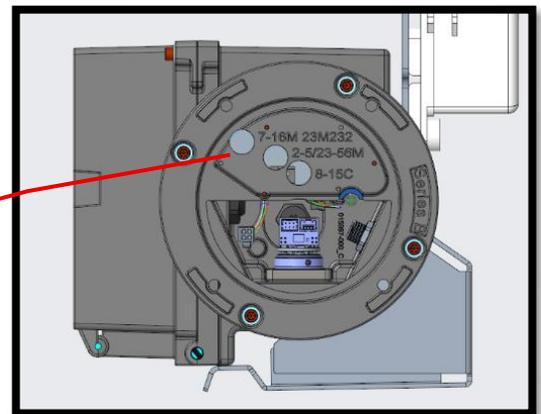

Figure 8: Magnetic Shaft Position
- b. Rotate the meter adapter plate ¼ turn clockwise (refer to Figure 7), so that the magnetic volume shaft holes are on the top, and the "Series B" imprint is on the right hand side and the screw holes align (refer to Figure 8).